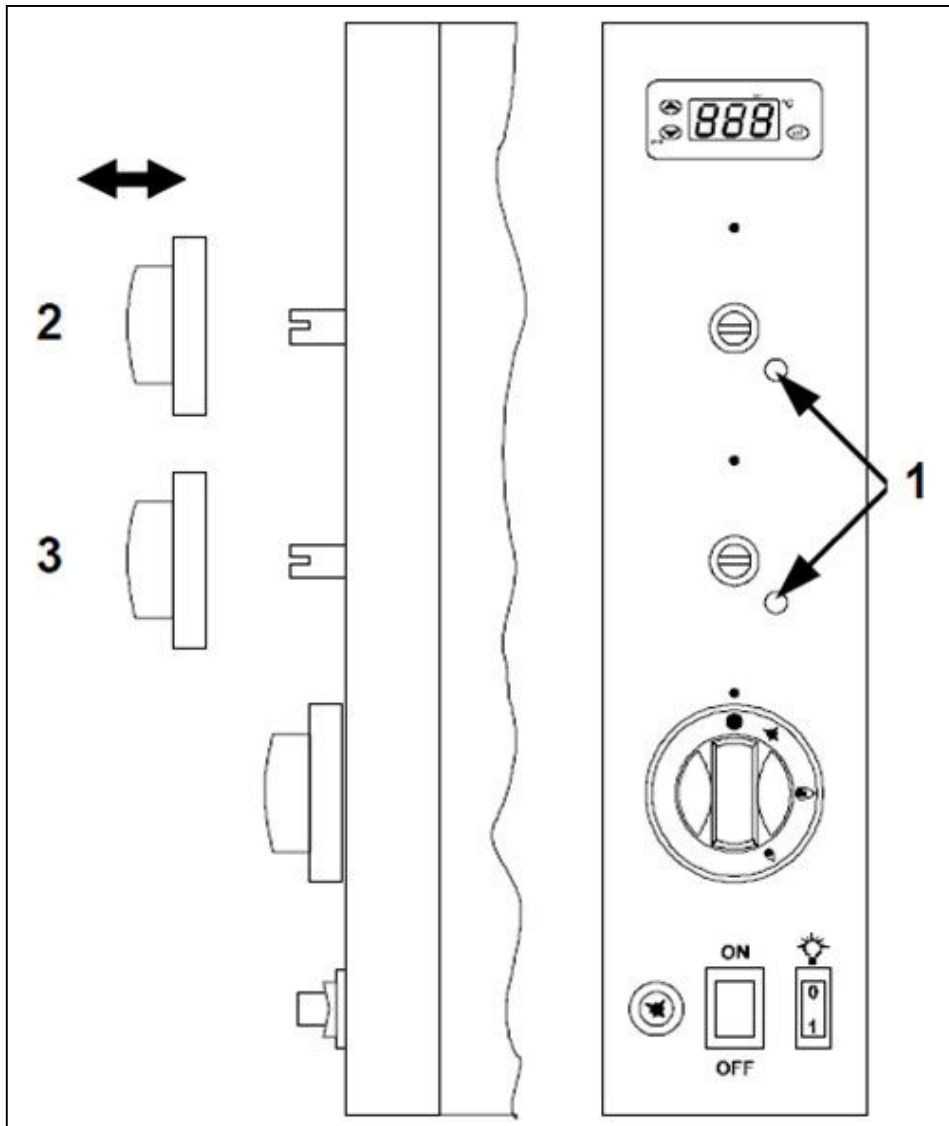

FIG.10
For LPG operation (g30-g31) the minimum is fixed and the screw (fig.10-ref.1) must be tightened fully; for operation with other types of gas the minimum is adjustable as follows:
- Manually remove the burner handle from the control panel (fig.10-ref.2/3);
- Unscrew the screw (fig.10-ref.1) 2/3 of a turn and insert the handle again;
- Remove the handle again and tighten the screw (fig.10-ref.1) until the flame remains stable;